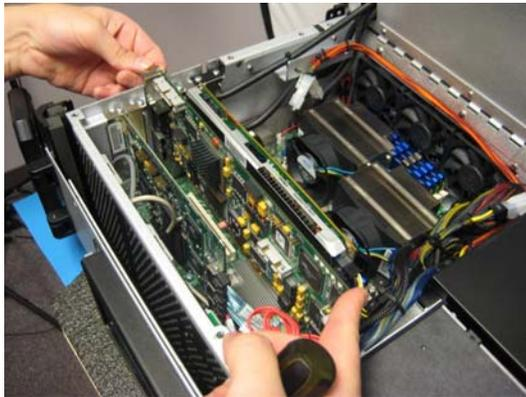
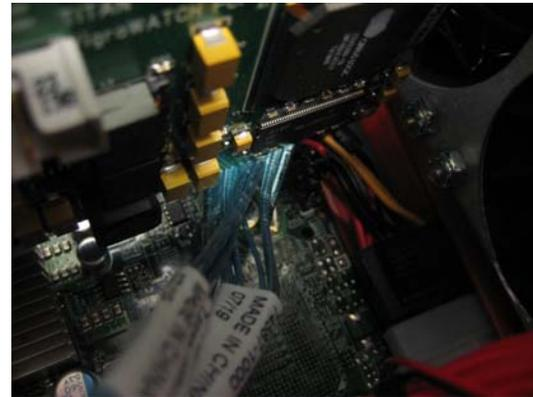

Figure 3-50
Figure 3-51
- 4) Slide in the new (or replacement) card into its respective slot as shown in Figure 3-50. Check to make sure the cables are routed underneath longer cards as illustrated in Figure 3-51. (see notes below).